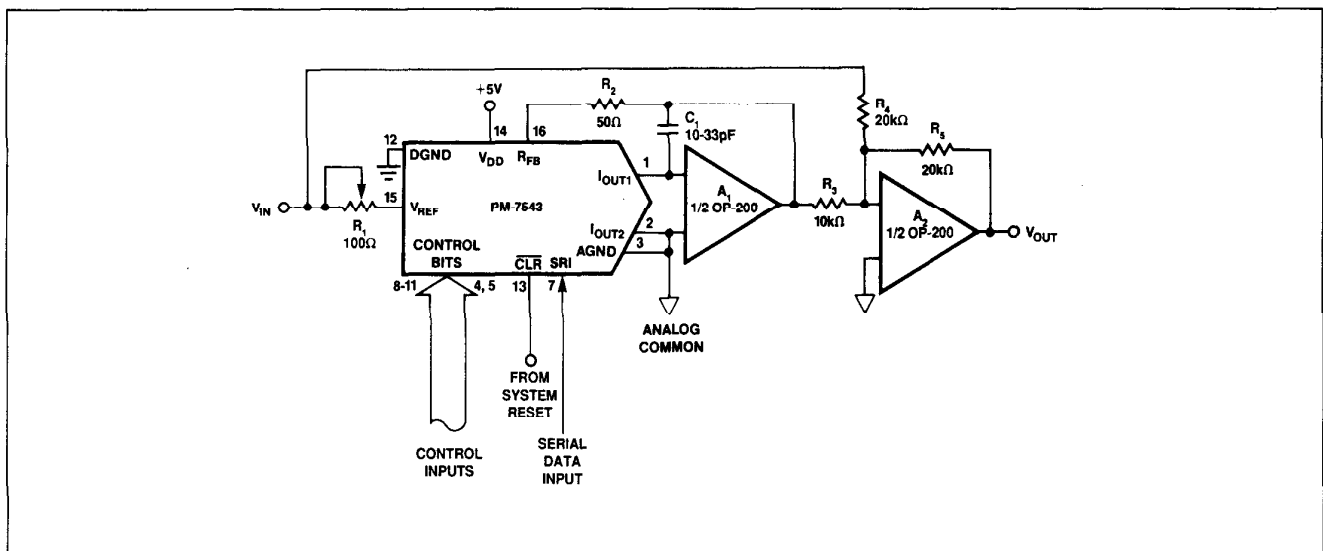

FIGURE 9: Bipolar Operation (4-Quadrant, Offset Binary)
Figure 9 details a suggested circuit for bipolar, or offset binary operation. Table 3 shows the digital input to analog output relationship. The circuit uses offset binary coding. Two's complement code can be converted to offset binary by software inversion of the MSB or by the addition of an external inverter to the MSB input.
- Nominal full scale for the circuits of Figure 9 is given by $FS = V_{REF} \left(\frac{2047}{2048} \right)$.
- Nominal LSB magnitude for the circuits of Figure 9 is given by $LSB = V_{REF} \left(\frac{1}{2048} \right)$.